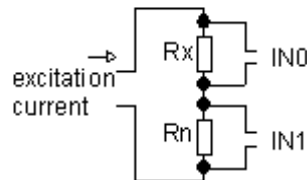

Fig. 2
3. **Resistance measurements** – the most usual example is a temperature sensor Pt100. The AD24USB uses ratiometric measurement shown on Fig.2., again with alternating of the excitation current. A lower level of the current can be used due to modulation, so a self heating error can be greatly reduced.